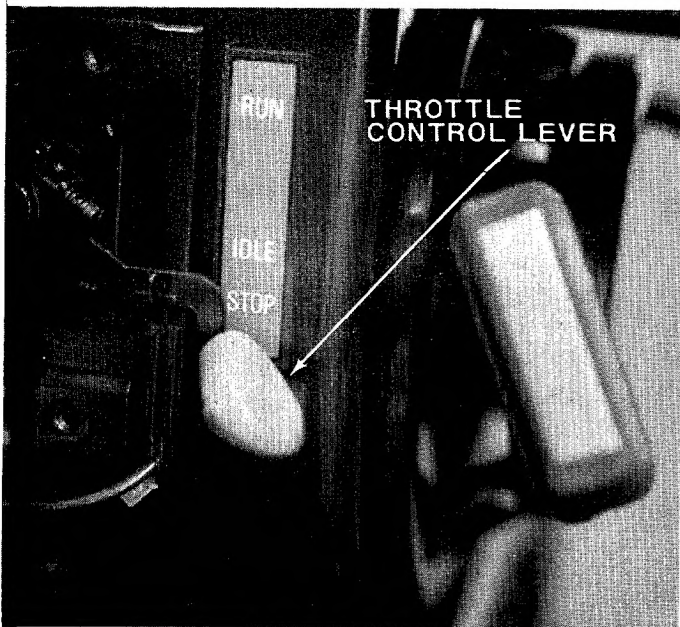

FIGURE 6
1. Place control lever (on engine) in run position. See figure 6.
1. Move control lever to STOP position. See figure 6.